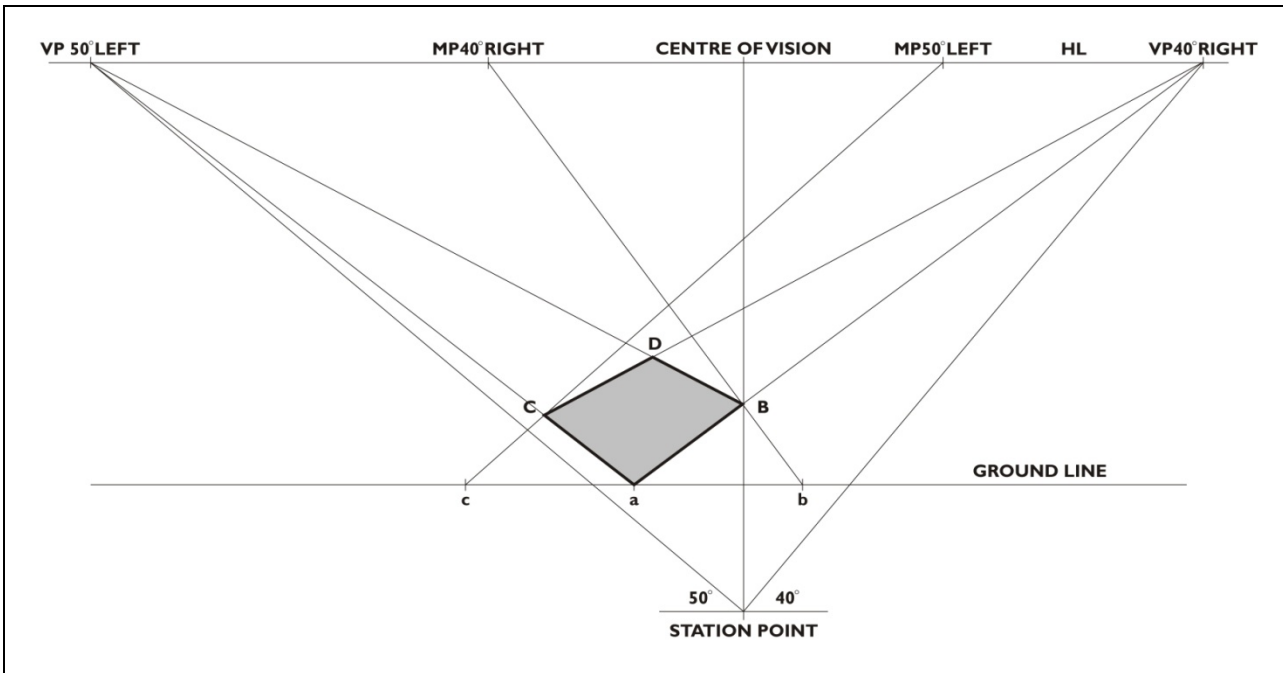

Figure 3.8 Two-point perspective base creation
3. Now you have created the base of the cube. Refer to Figure 3.8.